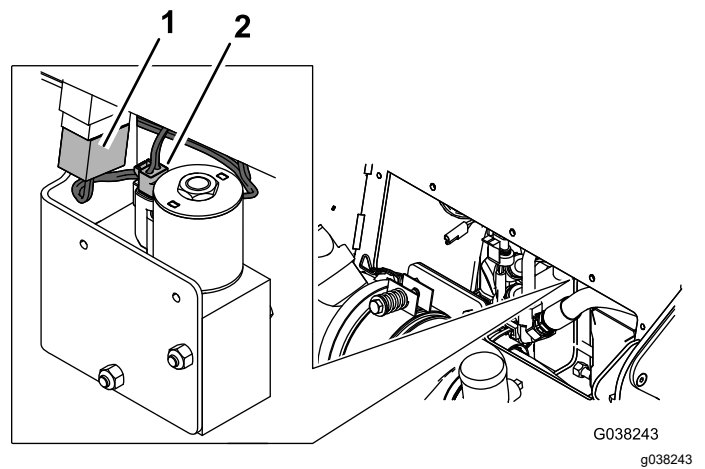

Figure 30
- 4. Connect the kit wire harness to the switch and the low-flow valve (Figure 30).